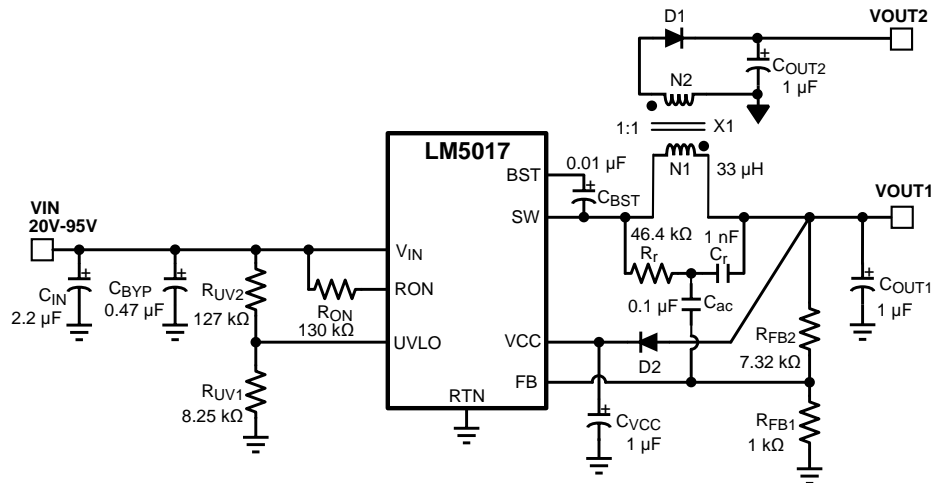

Figure 17. Typical Isolated Application Schematic
An isolated supply using LM5017 is shown in Figure 17. Inductor (L) in a typical buck circuit is replaced with a coupled inductor (X1). A diode (D1) is used to rectify the voltage on a secondary output. The nominal voltage at the secondary output ( $V_{OUT2}$ ) is given by Equation 20.